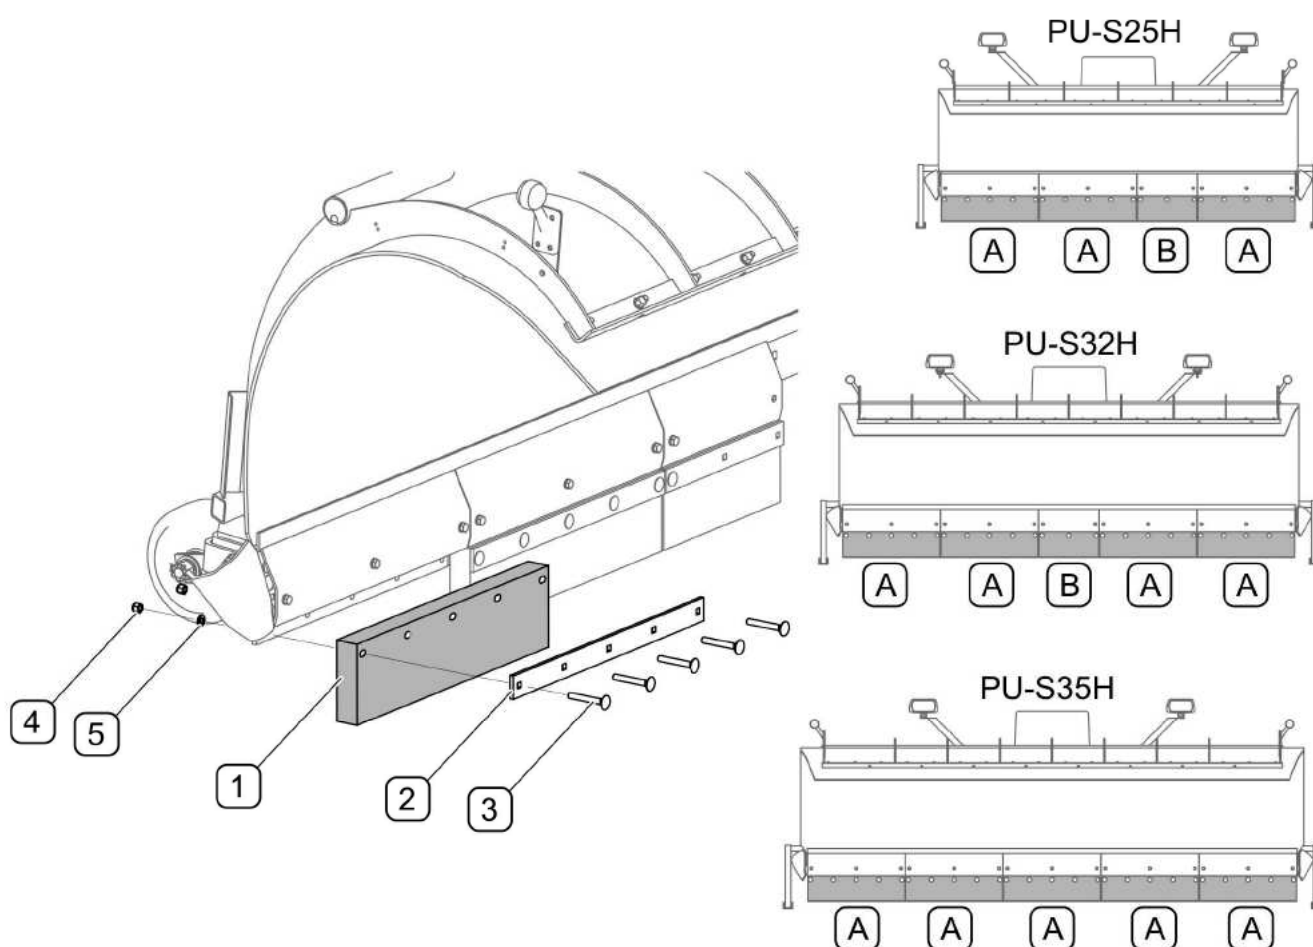

FIG. 5.1 Replacement of rubber plough blades
(1) - rubber plough blade; (2) - clamping strip; (3) - Z M12x90-8.8 bolt; (4) - M12 nut; (5) - Z12,2 spring washer; (A) - long segment; (B) - short segment
To remove a rubber plough blade (FIG. 5.1), unscrew nuts (4) of an appropriate segment, remove bolts (3) and remove the clamp strip (2). Fit an appropriate segment of plough blade (A) or (B), depending on the plough model (TAB. 5.1). Install in reverse order.